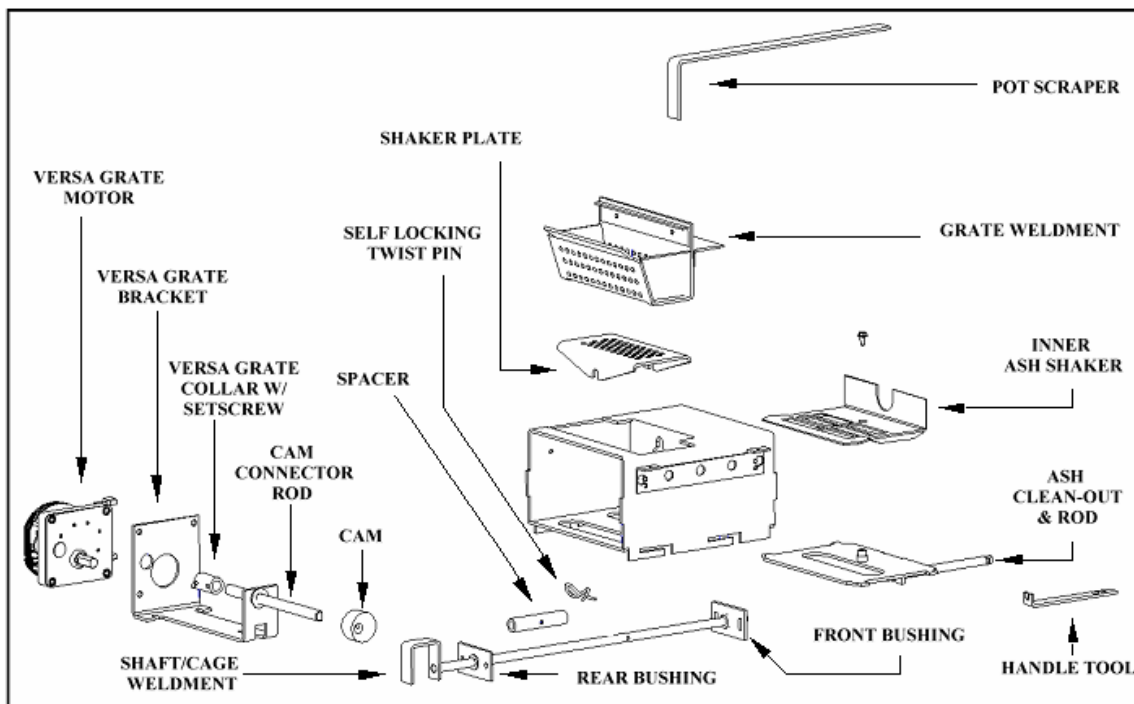

Figure 5
The Versa Grate System (see Figure 5 below). The benefit of this feature is that the stove can operate for longer periods of time, with most
First, let's become familiar with the burn system in a St. Croix Pellet stove. Remember, cleaning frequency may change dramatically from one fuel to another. Pellets with high ash content or that have increased amounts of impurities or high moisture content. Every St. Croix Pellet stove model will have the same system as shown in figure 5 below. There is a 2-piece burnpot. The top Part is called the **"Grate Weldment"**. This sits on top of the **"Shaker Plate"**. This in turn sits on top of the **"Shaft/Cage Weldment"** and is held in place with the **"Spacer"** & **"Self Locking Twist pin"**. The Shaft/Cage weldment is moved towards the front of the stove and then towards the back of the stove by the **"Cam"** that is connected to the **"Versa Grate Motor"**. This motion is constant, while the stove is in operation. The only parts that may need to be removed for cleaning purposes during the Daily or Periodic Maintenance are the **"Grate weldment"** and the **"Shaker Plate"**. This is to check the holes in the burnpot system to see if they are plugged.
1. Check Grate Weldment and Shaker Plate (See figure 5) to determine if holes are plugged. Clean as needed. With proper precautions the grate may be partially cleaned while the stove is hot. Follow these steps:
- Use the “scraper” provided to move the burning pellets to one side of the grate, leaving the ash in the bottom of the grate. (See Fig 5 & 6)
Use scraper shown in figure 5 & 6 to scrape ash into ash pan. Use a vacuum (cold stove only) to thoroughly clean these areas.
3. Clean burn grate holes at least weekly. Remove the burn grate and use a small metal object to clean out plugged holes. (See fig. 5 on page 9.)